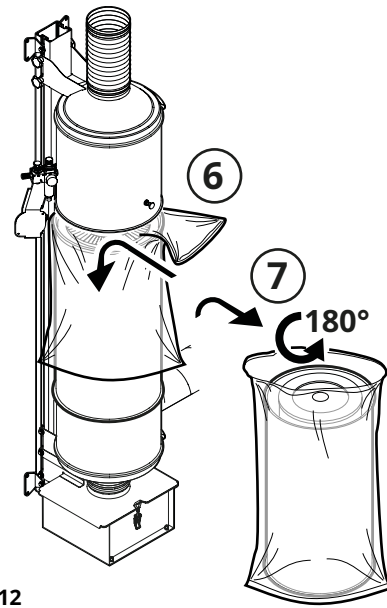
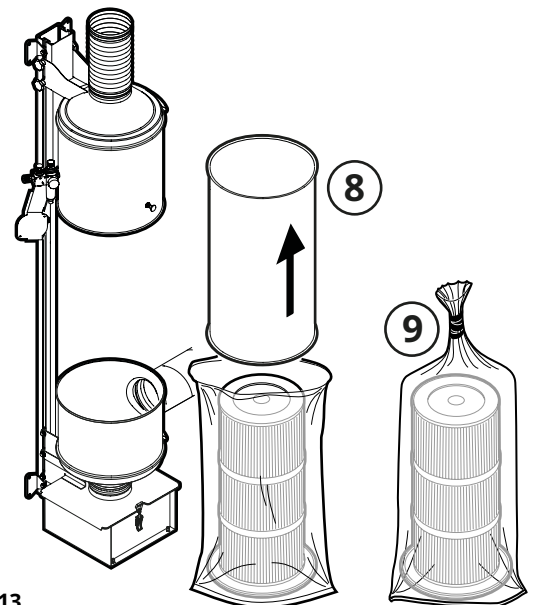

Fig. 12
Fig. 13
5. Place Filter bag CFE PCW3 (6, **Fig. 12**) over the filter housing so that it covers all the way down to the connection cylinder.
6. Lift the filter housing with Filter bag CFE PCW3, turn it upside down and place on a flat surface (7).
7. Lift out the filter housing from Filter bag CFE PCW3 (8, **Fig. 13**) so that only the cartridge filter remains; seal the package (9).